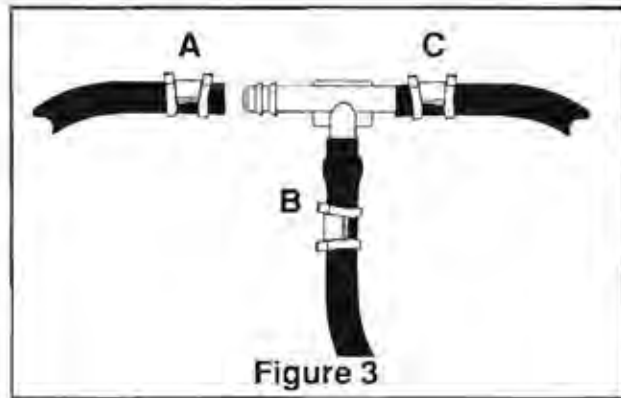

Figure 3
- D. Push the tubing over one side of the "tee" until all the barbs are covered. Repeat procedure for other leg of tee (Figure 3).
- E. With pliers slide the hose clamp forward until it fully covers the barbed section. Repeat for the other leg of tee (Figure 3).